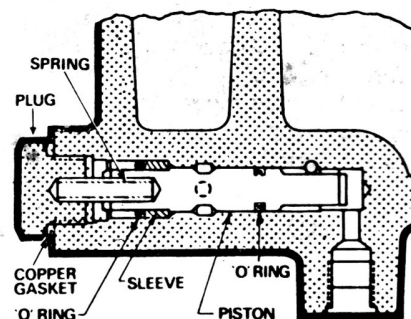

Fig. 2—Cross-sectional view of pressure differential piston assembly
(11) Install the metal sleeve against the shoulder on the differential warning switch piston from the spring retaining hole end, followed by a new large 'O' ring (Fig. 2).